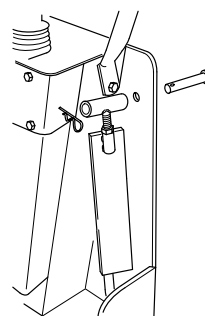

Figure 13
3. Pin the side bars in the storage positions as illustrated in Figure 13.